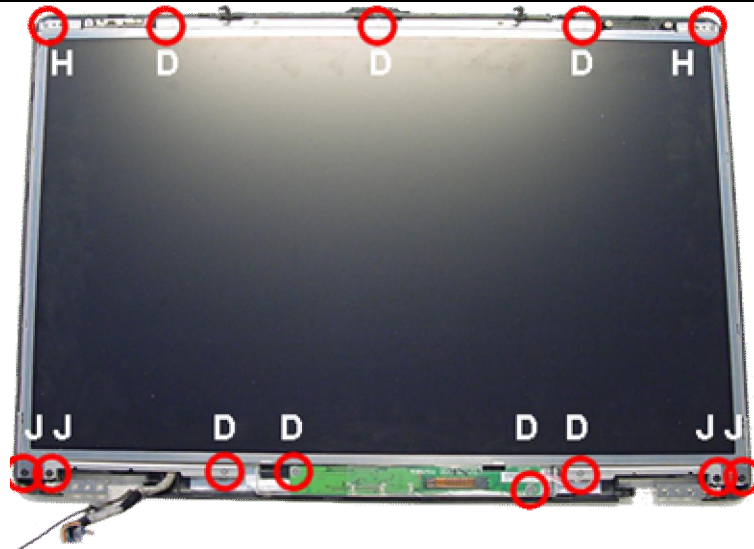

Fig. 15 LCD display panel.
5. Remove the screws (2xH) at the top (see Fig. 15).